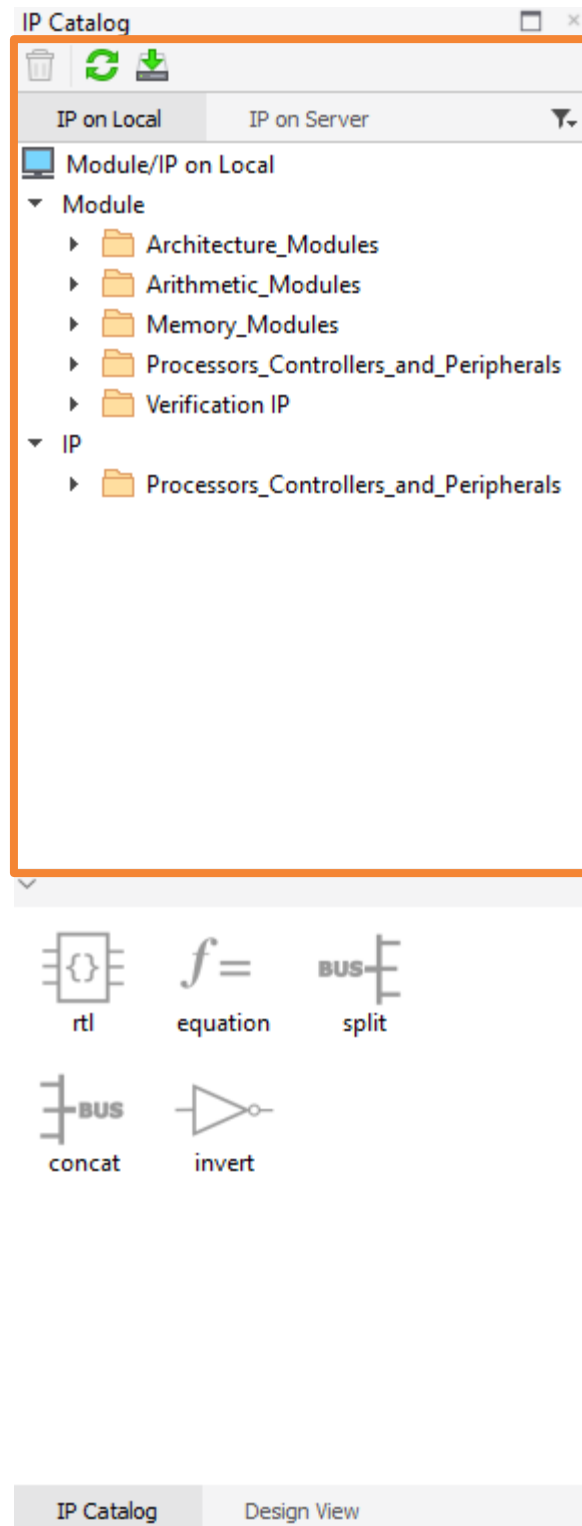

Figure 2.18. IP Catalog
After starting a Propel Builder project, you can add modules by dragging them from the IP Catalog view to the Schematic view. The IP Catalog view comes with a large variety of modules for common use and some glue logic modules as well, which can be found from the **IP on Local** tab (Figure 2.18). Click the **IP on Server** tab to find and download more modules for specialized use.
- (Optional) From the Propel Builder GUI **IP Catalog** area (Figure 2.18), choose the **IP on Server** tab. Select a desired IP. Click the  **Install** button. After the IP is installed successfully, the new IP can be shown in the **IP on Local** tab.